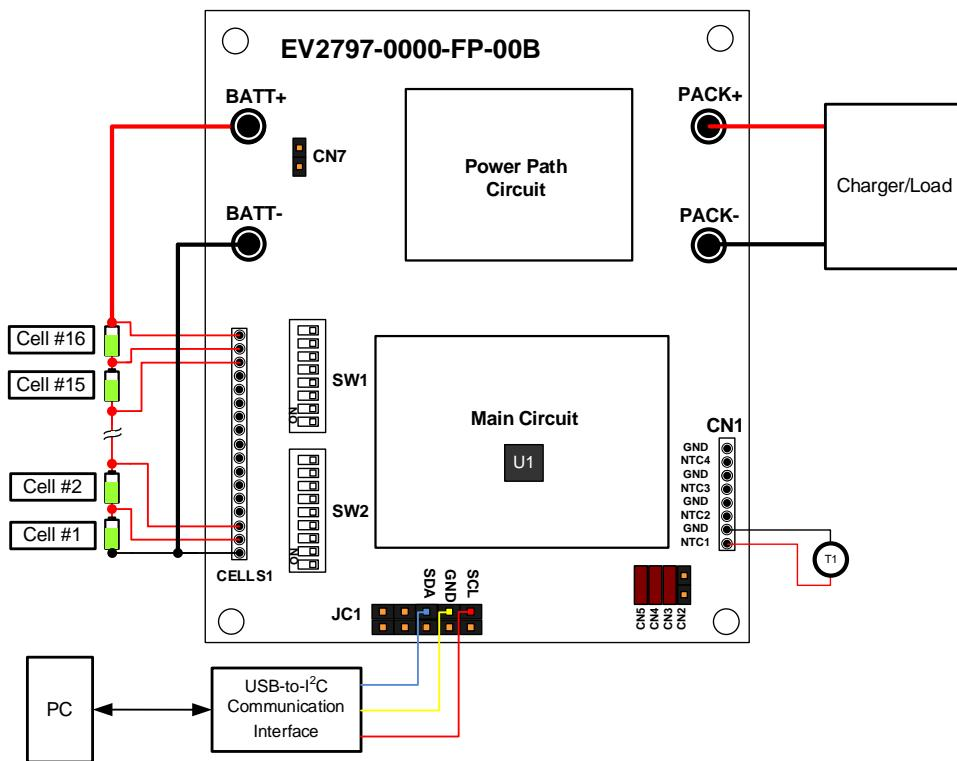
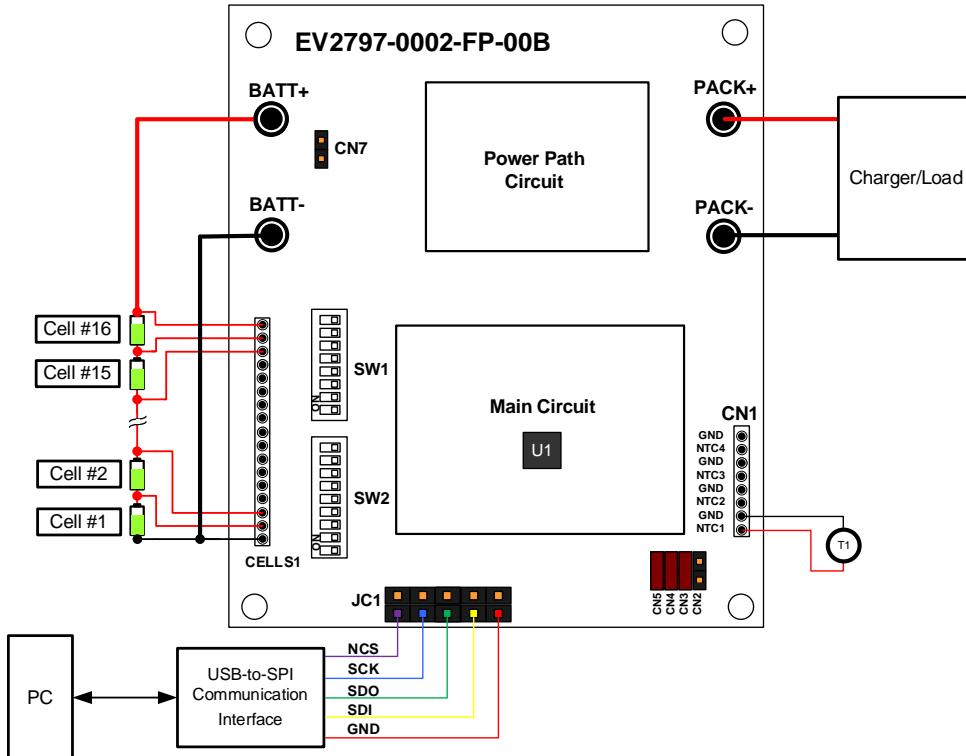

Figure 9: EV2797-0000-FP-00B Wire Connection
Figure 10: EV2797-0002-FP-00B Wire Connection
8. If using the EV2797-0000-FP-00B, connect SDA, SCL, and GND to the USB-to-I²C communication interface (see Figure 9 on page 10). If using the EV2797-0002-FP-00B, connect NCS, SCK, SDO, SDI, and GND to the USB-to-SPI communication interface (see Figure 10 on page 10).